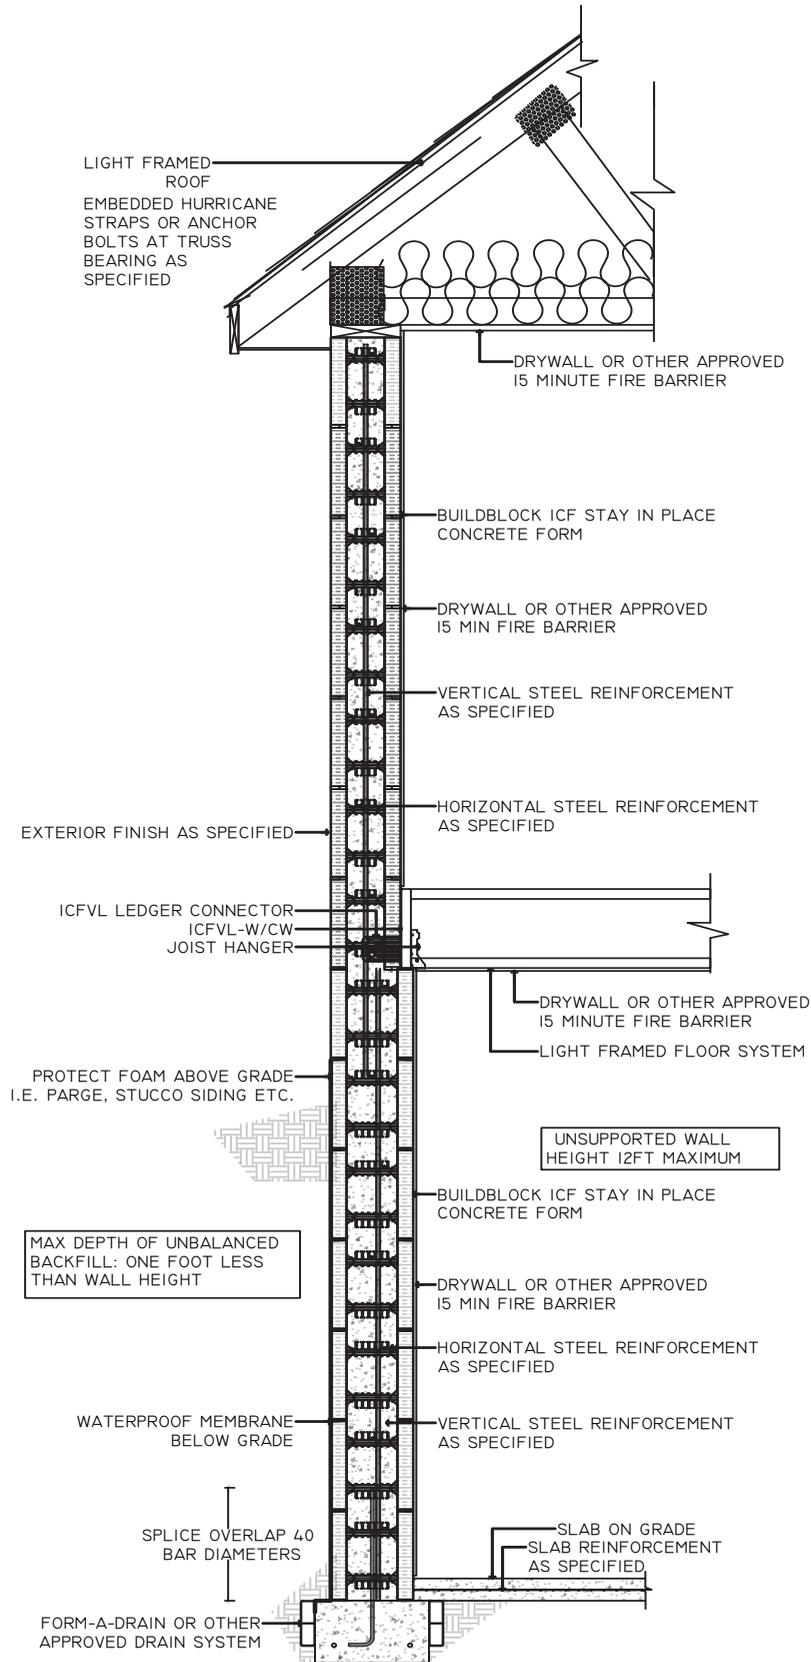

FIGURE 6.3. LOAD CASE 3. SECTION CUT THROUGH FLAT WALL OR VERTICAL CORE OF SCREEN GRID WALL. SUPPORTING 1 STORY OF ICF WALL.
- Load Case A3 Buildblock wall supporting one-story Buildblock wall and wood framed floor and roof. Minimum axial load. - Figure 6.3; Table 6.4a&b